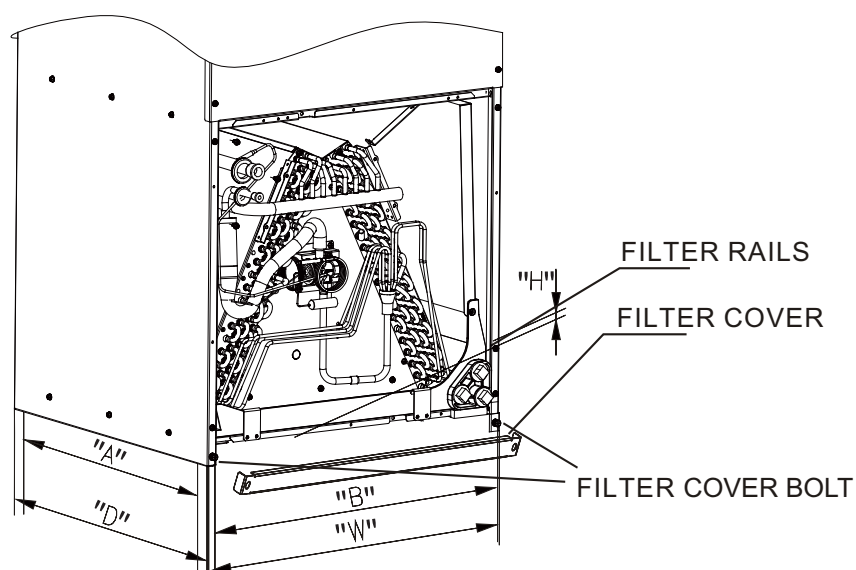

Figure 12.3 – Filter Installation Location
- When installing the indoor unit, ensure the filter is positioned and installed as shown in Figure 12.3, regardless of the installation method.